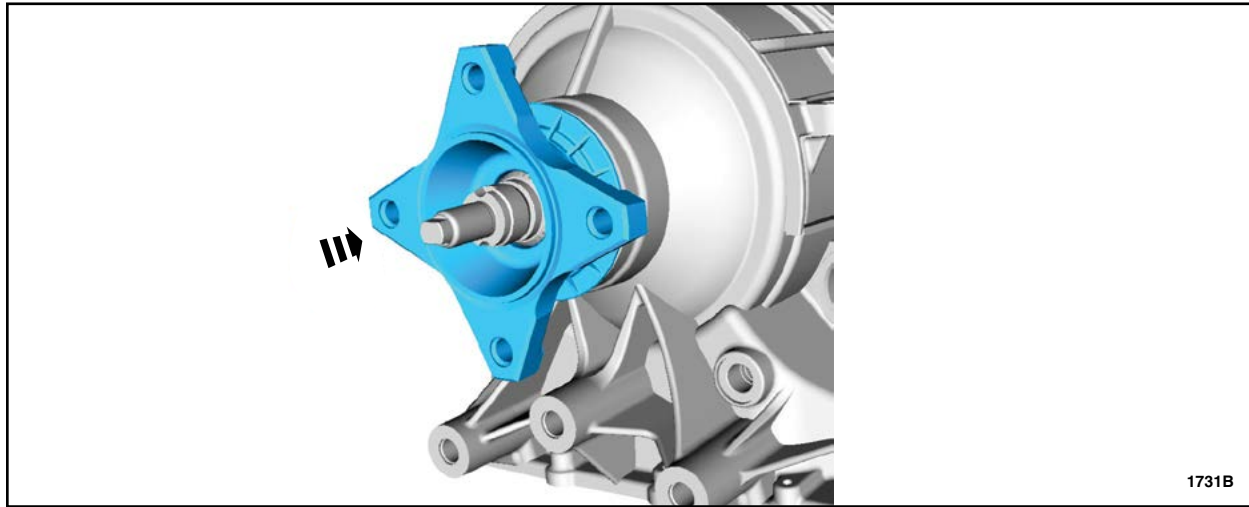

FIGURE 19
3. Using a 1/2" drive, 34mm, 12-point deep socket, install a *new* 4-bolt transmission output shaft flange and retaining nut. See Figures 19 and 20.